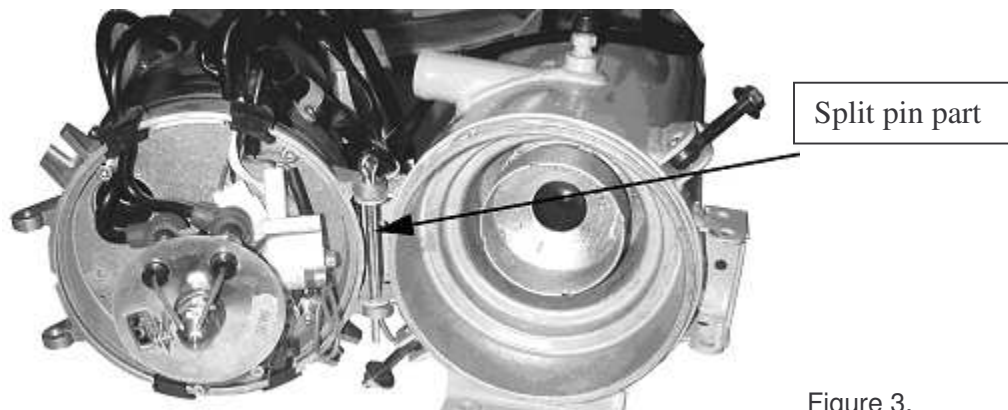

Figure 3.
5. Once the burner head has been unlatched, swing it open to the side (see figure 3). If there is no clearance to do so, or there is a risk of damaging the wiring harness or fuel lines, the split pin can be either removed or inserted in the other side of the housing **before** loosening the eyebolts. If there is not sufficient clearance, the burner head can be disconnected and completely removed. **CAUTION - do not damage the ignition electrodes (1) during the work. DO NOT change the screw position of the air intake bellows. This only happens if the adjusting screw is not properly tightened.**